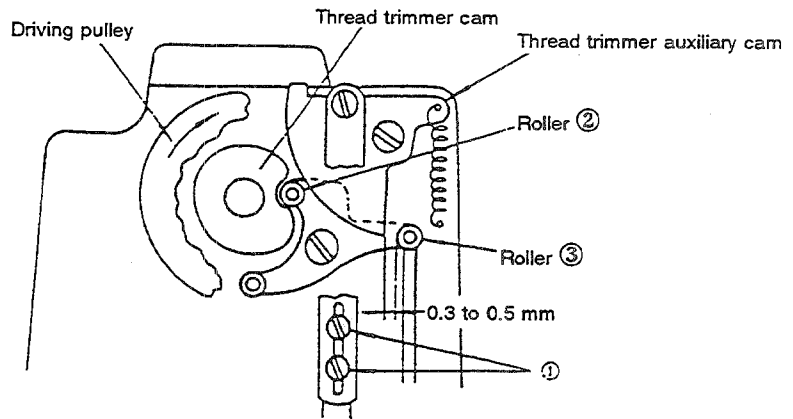

Fig. 25
<ol style="list-style-type: none"> <li>1) Turn OFF the power to the machine and lower the work clamp foot.</li> <li>2) Release the thread trimmer auxiliary cam and bring it to the position as shown in Fig. 25.</li> <li>3) Turn the driving pulley in the direction of the arrow until roller ② enters the recess on the thread trimmer cam.</li> <li>4) Now, loosen screw ① and adjust so that a 0.3 to 0.5 mm clearance is obtained between roller ③ and the top end of the auxiliary cam.</li> </ol>	<ul style="list-style-type: none"> <li>● If the clearance between the roller and the thread trimmer auxiliary cam is excessively larger than the specified value: Thread trimming timing will be retarded, resulting in a thread trimming failure.</li> <li>● If no clearance is provided between the roller and the cam and they come in contact with each other: Operation of the thread trimmer is interrupted when the thread is spread. In this case, the thread is not cut.</li> </ul>